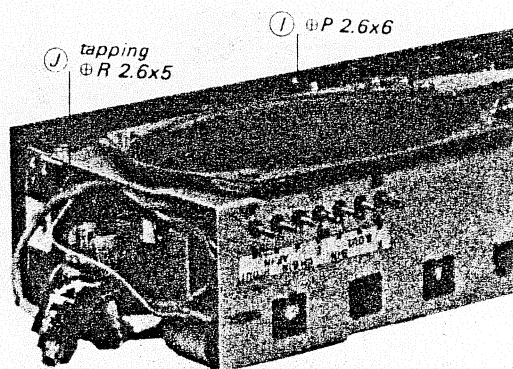

Fig. 2-6
7. Remove the screw (P 2.6x6) marked (I) and the tapping screw (R 2.6x5) marked (J) in Fig. 2-6.